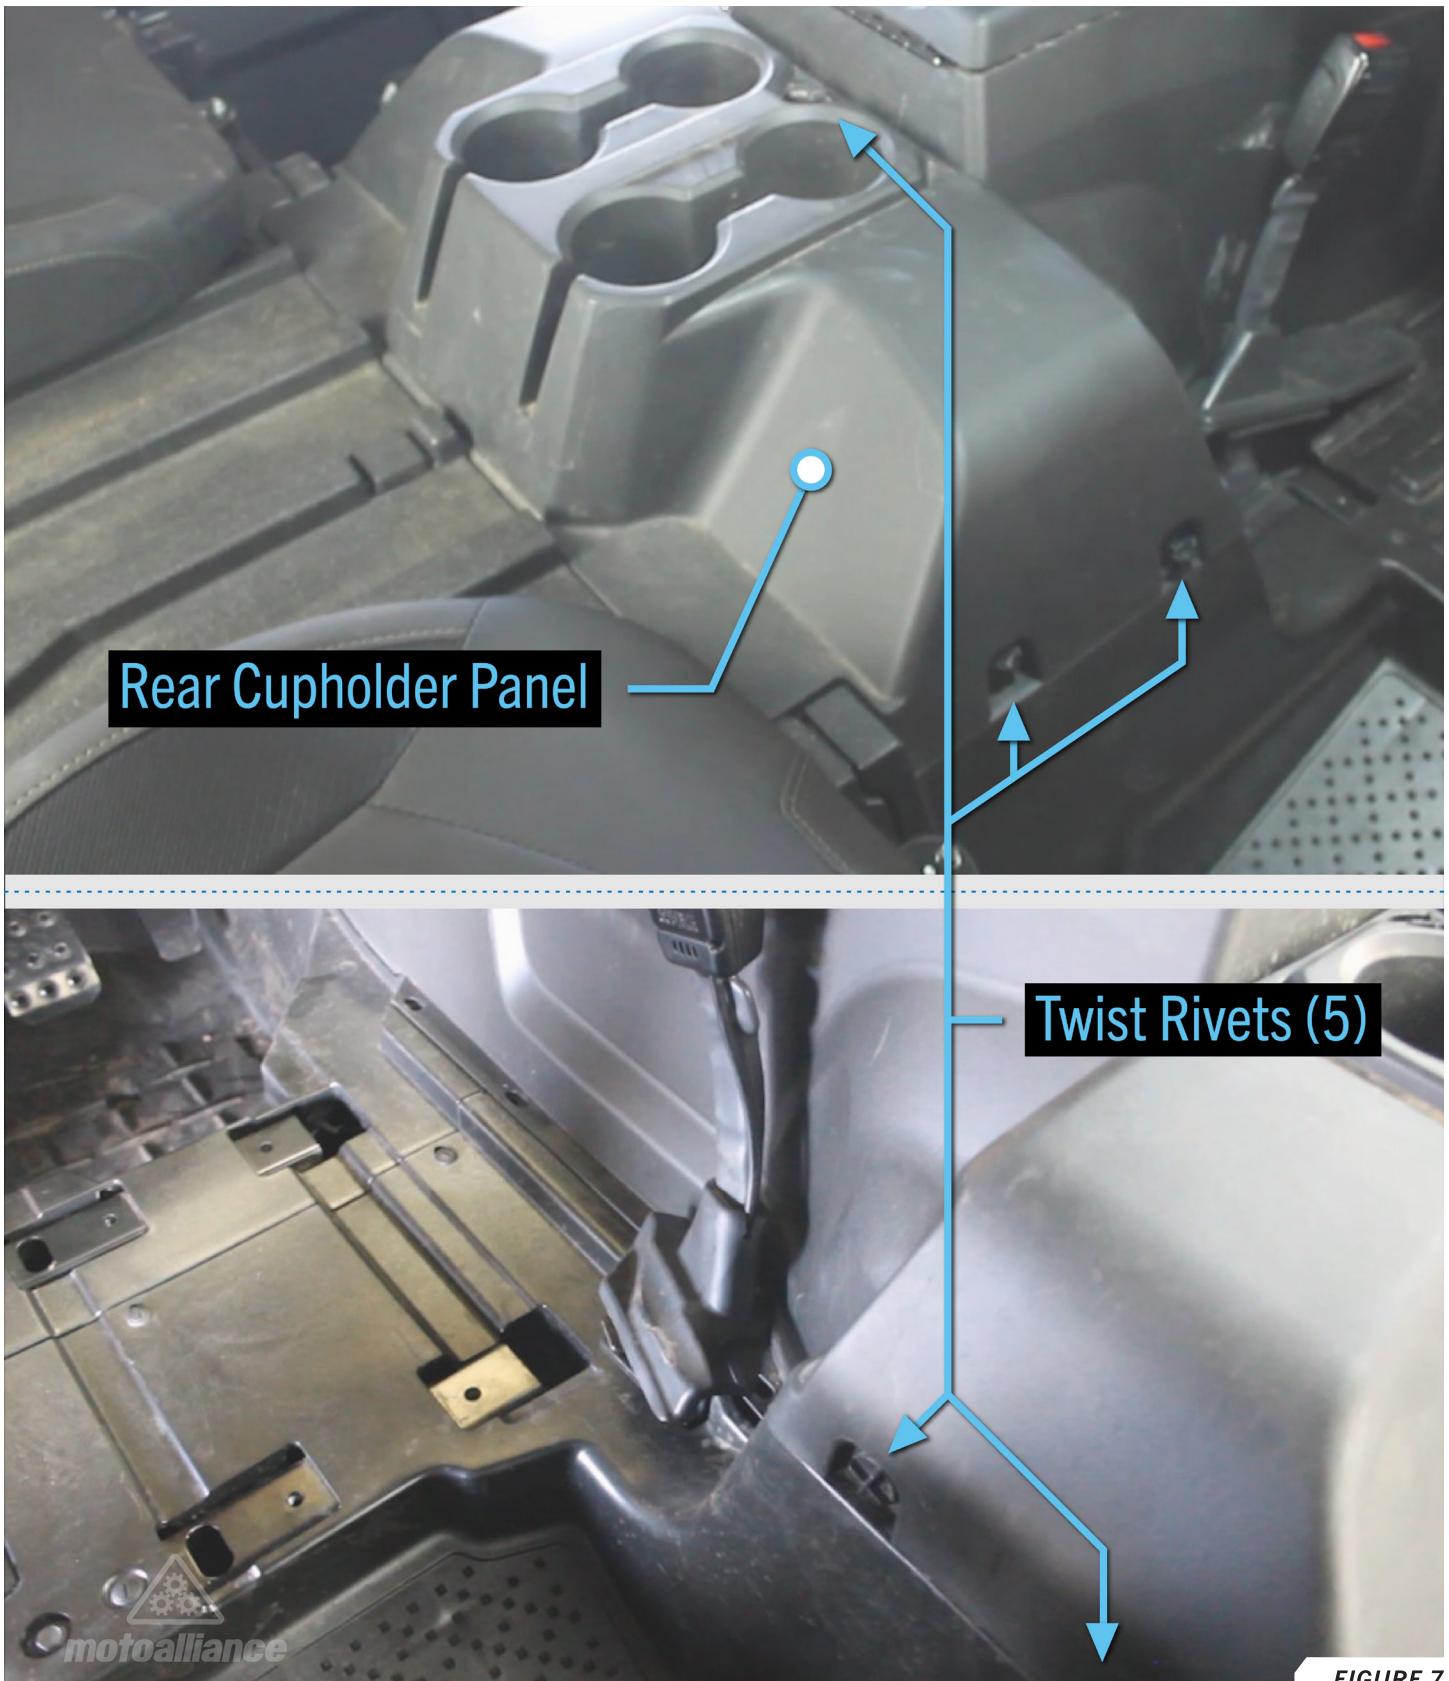

FIGURE 7
17. Remove the 5 twist-rivets holding the rear cupholder panel in place, then remove the rear cupholder panel and set aside. **FIGURE 7**